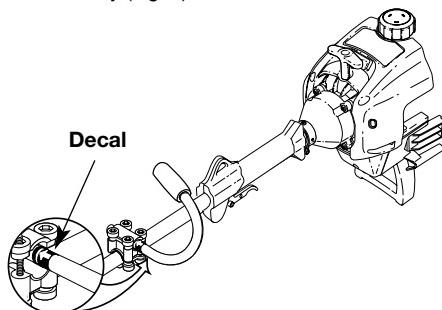

Fig. 5
3. Slide the J-handle out until the arrow/white line on the decal touches the clamp assembly (Fig. 5).